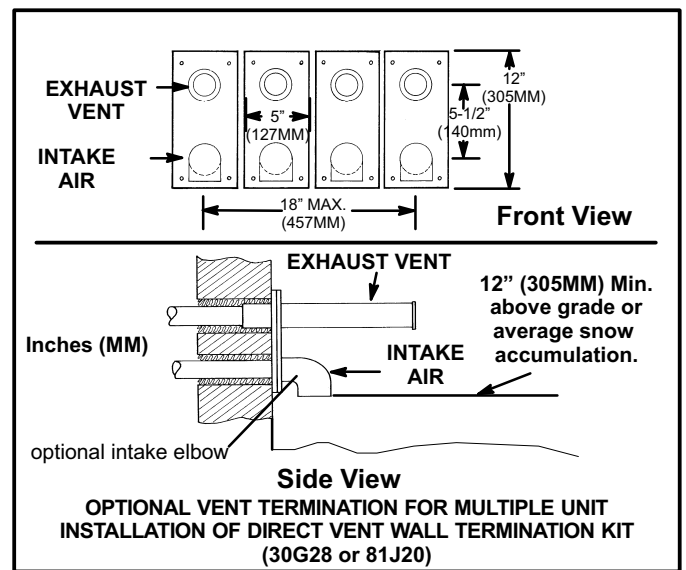

FIGURE 35
8. A multiple furnace installation may use a group of up to four terminations assembled together horizontally, as shown in figure 35.
9. A multiple furnace installation may use a group of up to four terminations assembled together horizontally, as shown in figure 35.